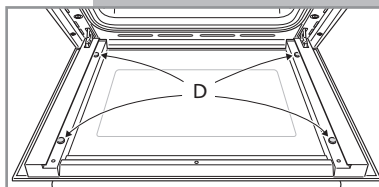

Fig. 57
- Check that the four rubber pads are in place (**D** in fig. 57).